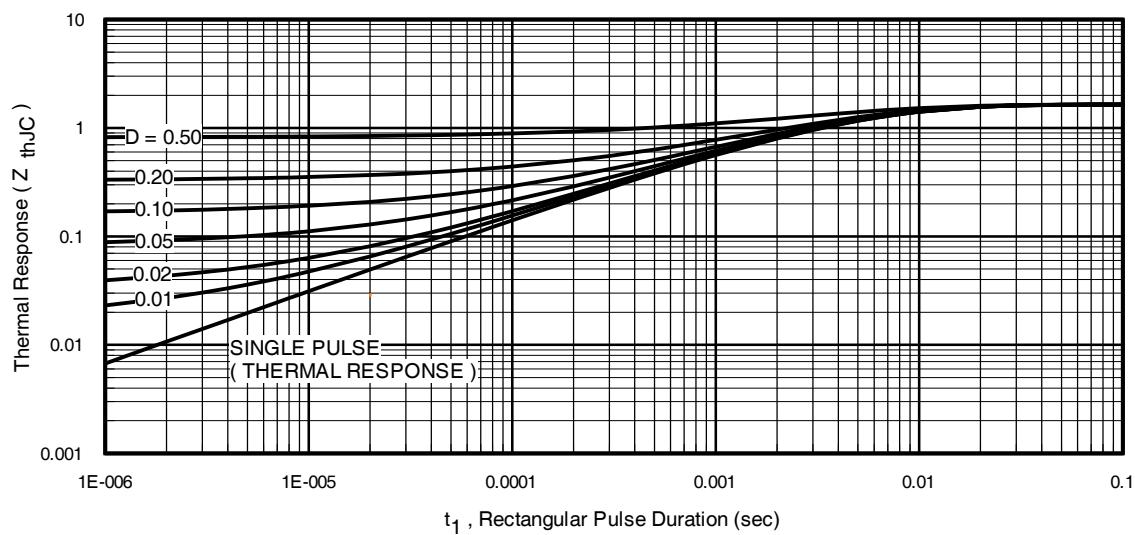
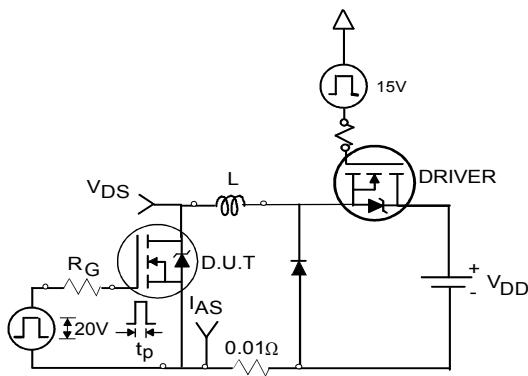

Fig 11. Maximum Effective Transient Thermal Impedance, Junction-to-Case
Fig 12a. Unclamped Inductive Test Circuit
- ① Repetitive rating; pulse width limited by max. junction temperature. (See fig. 11)
- ② Limited by $T_{J\max}$, starting $T_J = 25^\circ\text{C}$, $L = 0.46\text{mH}$, $R_G = 25\Omega$, $I_{AS} = 20\text{A}$, $V_{GS} = 10\text{V}$. Part not recommended for use above this value.
- ③ Pulse width $\leq 1.0\text{ms}$; duty cycle $\leq 2\%$.
- ④ $C_{oss\ eff.}$ is a fixed capacitance that gives the same charging time as C_{oss} while V_{DS} is rising from 0 to 80% V_{DSS} .
- ⑤ Limited by $T_{J\max}$, see Fig. 12a, 12b, 15, 16 for typical repetitive avalanche performance.
- ⑥ This value determined from sample failure population, $T_J = 25^\circ\text{C}$, $L = 0.46\text{mH}$, $R_G = 25\Omega$, $I_{AS} = 20\text{A}$, $V_{GS} = 10\text{V}$.
- ⑦ This is only applied to TO-220AB package.
- ⑧ This is applied to D²Pak When mounted on 1" square PCB (FR-4 or G-10 Material). For recommended footprint and soldering techniques refer to application note #AN-994
3. Equation below based on circuit and waveforms shown in Figures 12a, 12b.